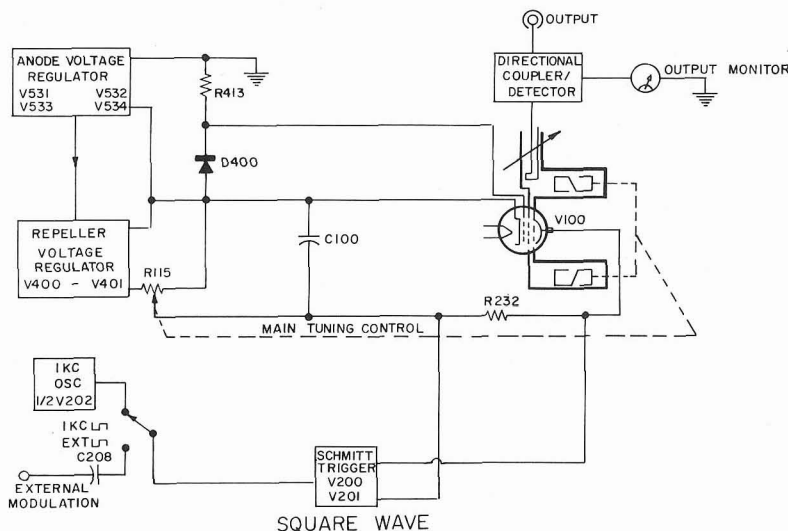
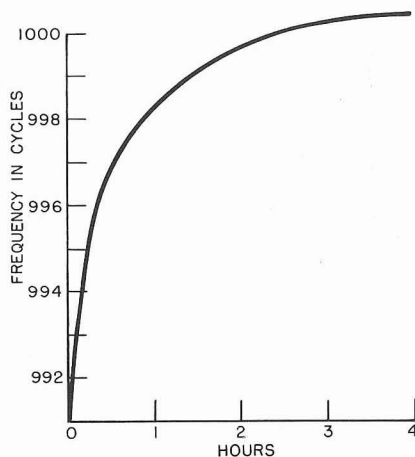

Figure 6. Block diagram for operation of the Microwave Oscillator with internal 1-kc square-wave modulation or external square-wave modulation.
Figure 7. Typical warm-up drift for the 1-kc oscillator.
**3.2.7 1-KC SQUARE-WAVE MODULATION.** In many types of klystrons, including the Type 5836, an appreciable amount of fm occurs across long pulses when the tube is grid-modulated. Therefore, in the Type 1360-A Microwave Oscillator, the repeller is used for square-wave modulation. By modulating in and out of a repeller mode, fm will naturally occur on the leading and trailing edges of the pulse, but its duration is now a function of the switching speed. The 1-kc output from the RC oscillator is fed into the Schmitt trigger circuit where square-wave output is applied across R232 in series with the repeller lead (see Figure 6). The frequency of the 1-kc square wave can be changed with the 1 KC ADJUST screwdriver control to match the frequency of the detector. Figure 7 shows the typical warm-up drift for the 1-kc oscillator. The frequency change with power-line voltage fluctuations is approximately 0.06% per volt at 115 volts.
**3.2.8 EXTERNAL SQUARE-WAVE MODULATION.** For external square-wave modulation, operation is similar to 1-kc square-wave modulation (see Figure 6) except that the modulating voltage is fed from an external source through the EXTERNAL MODULA-